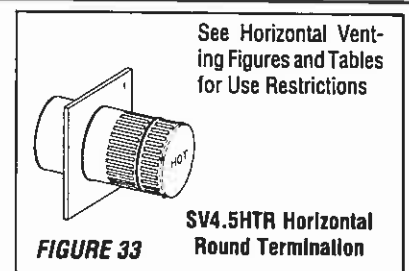

FIGURE 33
2. Install the round termination (SV4.5HTR) - See **Figure 33** for an illustration of the round termination. For the last step, from outside the exterior wall, slide the collars of the termination onto the adapter (the outer over the outer and the inner inside the inner) until the termination seats against the exterior wall surface to which it will be attached. Orient the housing of the termination with the arrow pointed upwards. Secure the termination to the exterior wall.